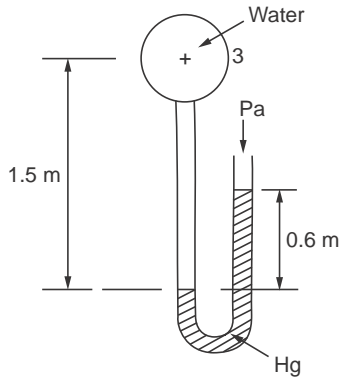

Figure E. 2.6
**E.2.6.** Determine the pressure above the atmosphere at point 3 for the manometer and dimensions shown in Fig. E.2.6. **[65 kN/m2]**